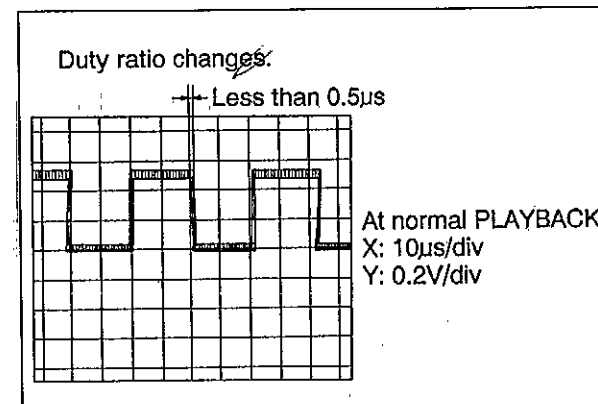

Fig. 1
- Load a DCC music tape (RFKZ0034) into the unit under test and put the unit in PLAY mode. When the capstan servo is locked, a 47 Hz square wave with a duty ratio variation of less than 0.5 μs will be observed on the scope (see Fig. 1). Unlock the servo and verify that the muting function is active.